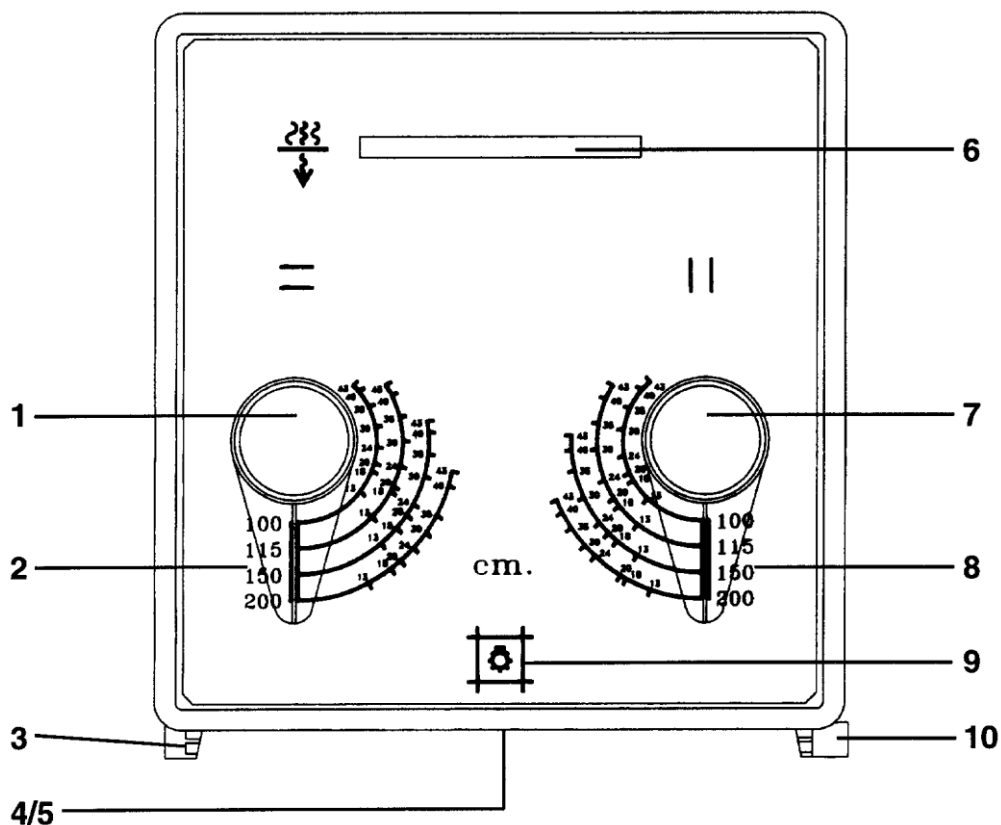

Figure 2-3 Collimator
- Adjust X-ray tube assembly with measuring tape (Fig. 2-3/10) on collimator to the requested focal spot to film distance (FFD).
- Press the collimator light switch (Figure 2-3, item 9,) to turn on the collimator light, and check the opening of the collimator shutters, relative to the used of the exposure medium size.
- Adjust collimator shutters to size of used cassette with collimator adjustment controls.(fig. 2-3/1 and fig. 2-3/7). Several FFD scales (Figure 2-3/2 and fig. 2-3/8) are provided to indicate the correct settings of the collimator adjustment controls. So the light beam and the X-ray field can be limited to the desired of the exposure medium size.
- By pressing button (Fig. 2-2/5) release brake for the longitudinal movement of the stand and adjust X-ray tube assembly to the necessary focal spot to film distance (FFD) (only possible with version SH). Observe focus range of the bucky on bucky stand and adjust it with measuring tape on collimator ( fig. 2-3/10).
- By pressing button (Fig. 2-3/9) switch on collimator light.
- Adjust X-ray tube assembly to desired height and align it with light of collimator (fig. 2-3/4) towards bucky.
- By pressing button (Fig. 2-3/9) switch on collimator light in order to check opening of collimator shutters to the used of the exposure medium size.
- Adjust collimator shutters to size of used exposure medium with collimator adjustment controls.(fig. 2-3/1 and fig. 2-3/7). Several FFD scales (Figure 2-3/2 and fig. 2-3/8) are provided to indicate the correct settings of the collimator adjustment controls. So the light beam and the X-ray field can be limited to the desired of the exposure medium size.